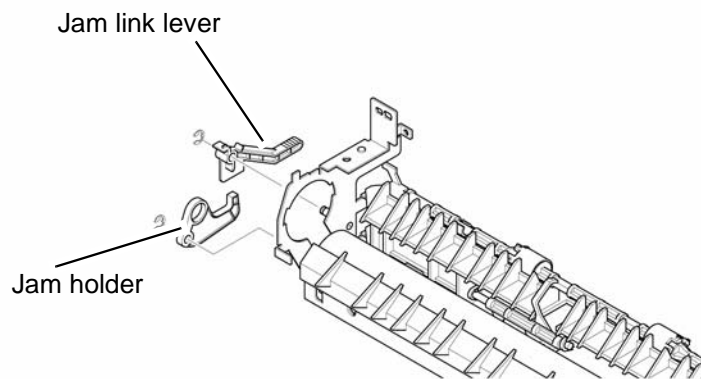

Figure 9
10. Remove the Jam Link Lever (L,R) and Jam Holder (L,R) and then remove the Pressure Roller, as shown in figures 9 and 10.